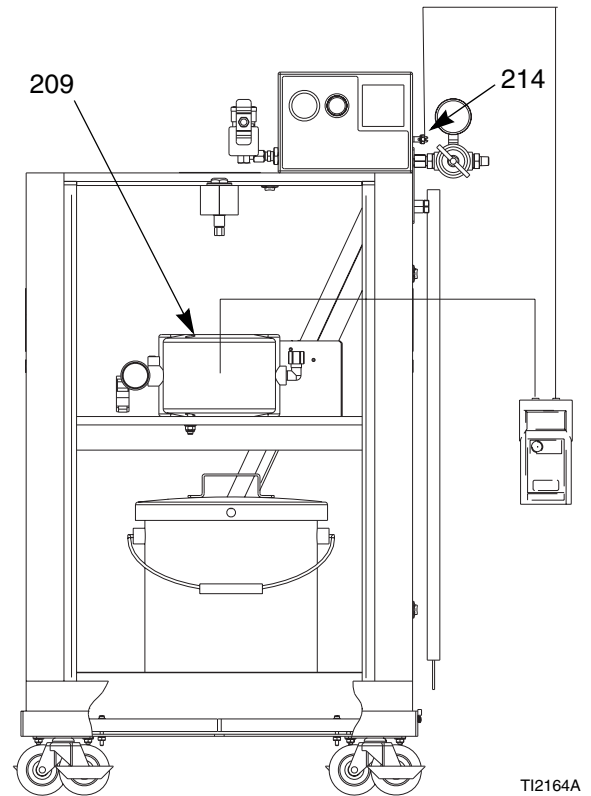

Fig. 23. Test Cylinder Resistance
See FIG. 23.. Remove the enclosure door. Using an ohmmeter, measure the resistance from the pump (209) to the ground lug (214). Resistance must be less than 100 ohms. If greater than 100 ohms, replace the grounding cylinder.